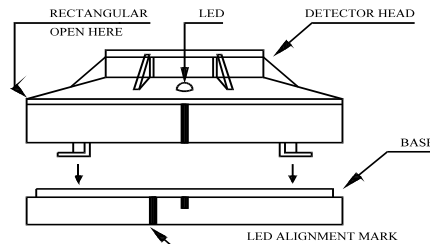

Fig. 2 Mating detector head onto base
- Align the components as shown in figure 2.